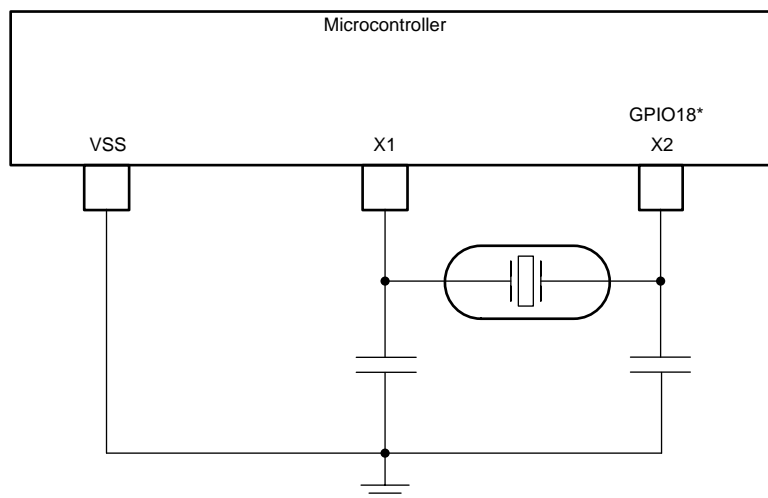

图 5-13. External Crystal
- An external crystal. The crystal should be connected across X1 and X2 with its load capacitors connected to VSS as shown in 图 5-13.